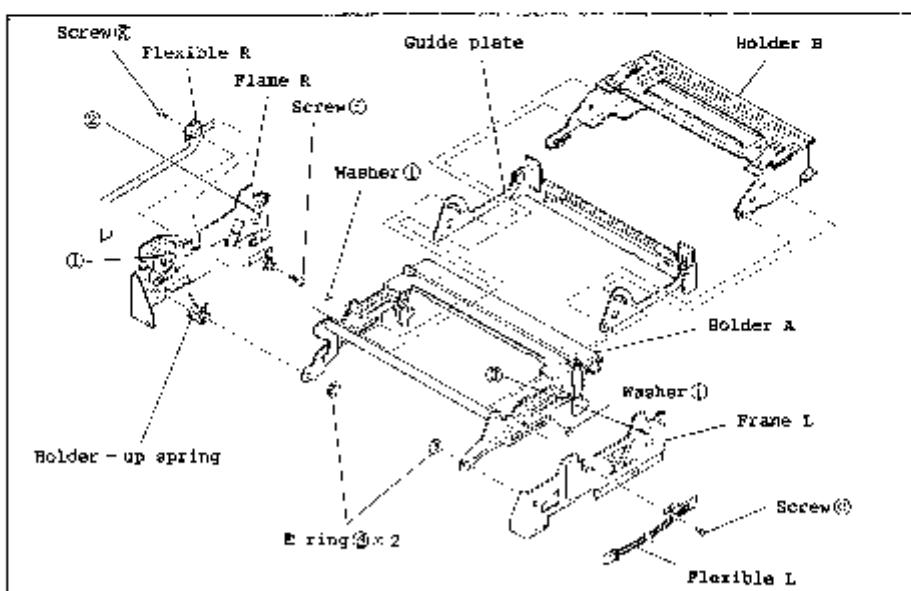

Fig. III-3-A
2. When replacing the Frame R, apply the EL-4 (grease) on the positions of ① and ② indicated respectively by arrows. (Fig. III-3-A)
3. When replacing the Frame L, apply the Grease EL-4 on the positions ③ indicated by arrows (Fig. III-3-A)
## 5. Holders A, B and Guide Plate (Fig. III-3-C)